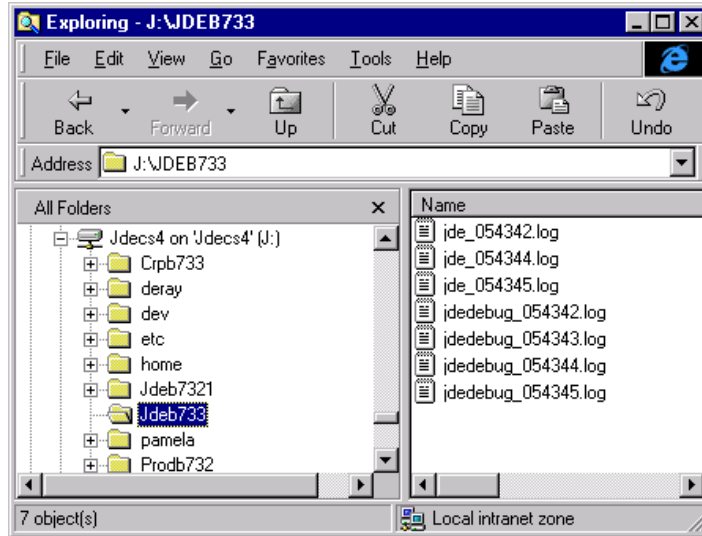

Figure 394. Accessing AS/400 IFS log files from Windows Explorer
- b. Enter \\AS400Machine for the Path field, for example, \\ASM23 for accessing a log file on ASM23. Locate the mapped drive and the log file. Double-click the desired log file to view it (Figure 394 on page 738).